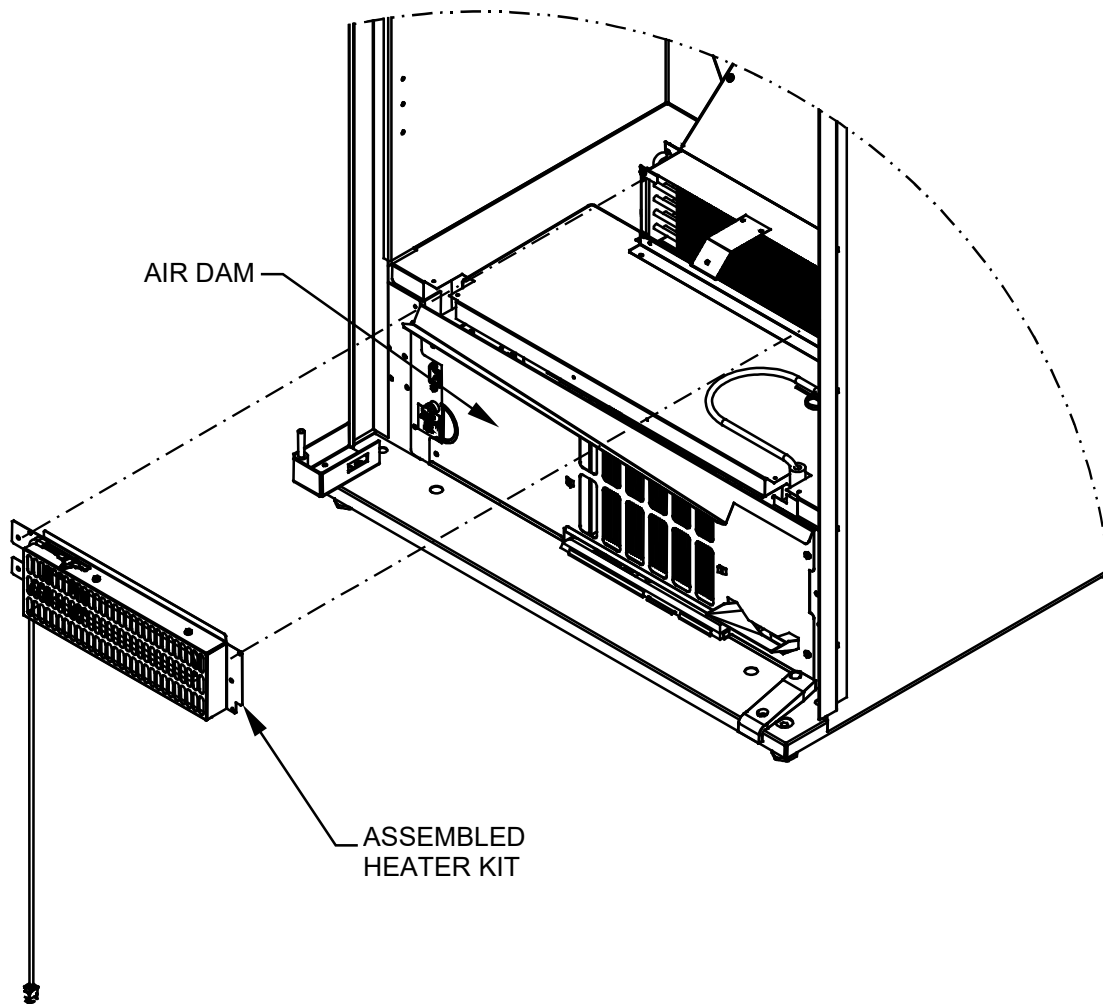

FIGURE 2
- Step #3** Attach heater assembly to the front of the evaporator using two #10 screws (V802047). See Figure 2.
- Step #4** Remove air dam and retain hardware. See Figure 2.